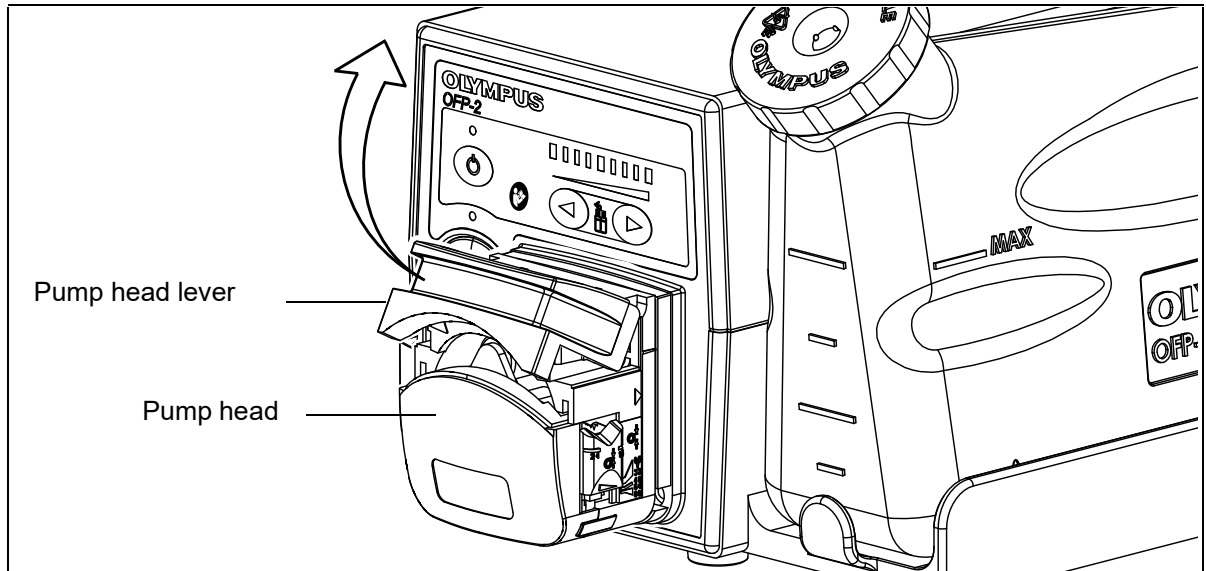

Figure 3.3
8. Referring to Figure 3.3, open the pump head lever on the pump head to access the pump rollers.